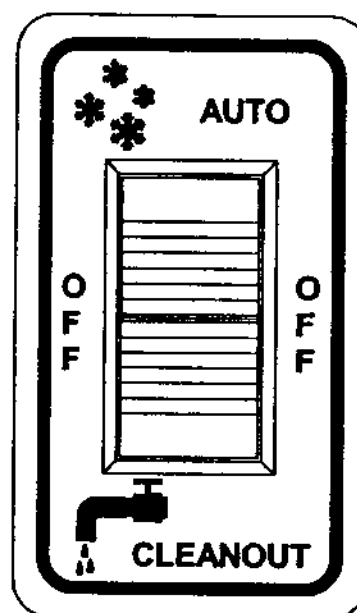

Fig. 39
5. Set the control switch (Fig. 39) to the "CLEANOUT" position and let the unit agitate for approximately three to five minutes.